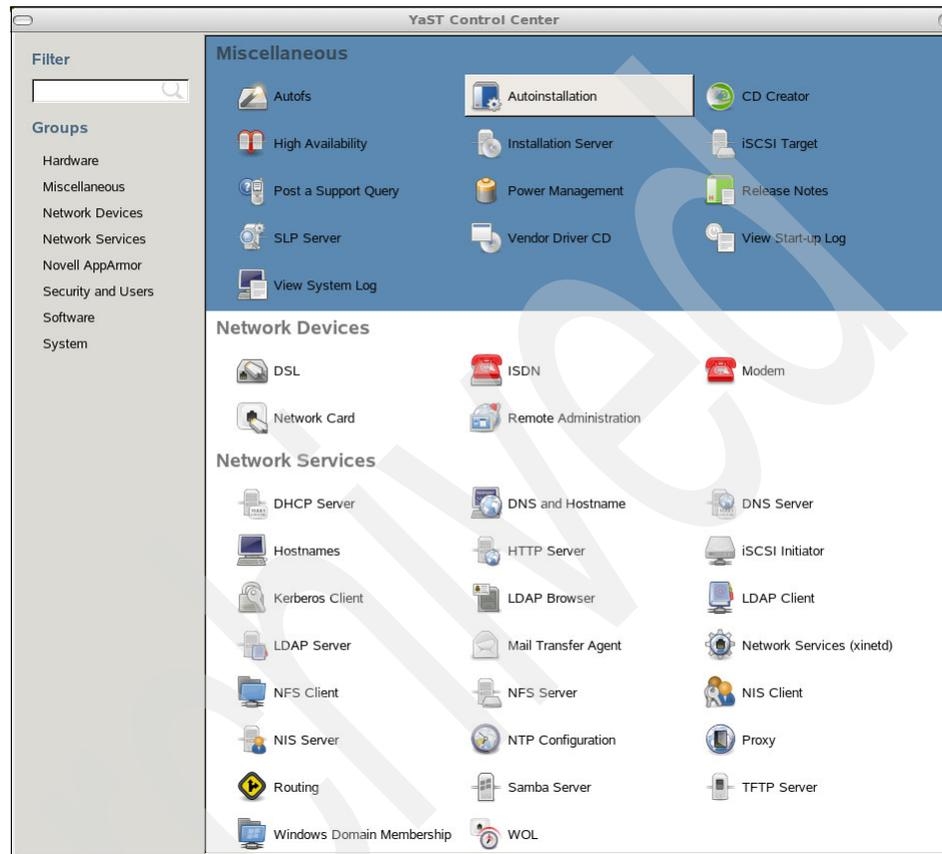

Figure C-3 Selecting the Autoinstallation option
1. Start the YaST application, which opens a window as shown in Figure C-3.